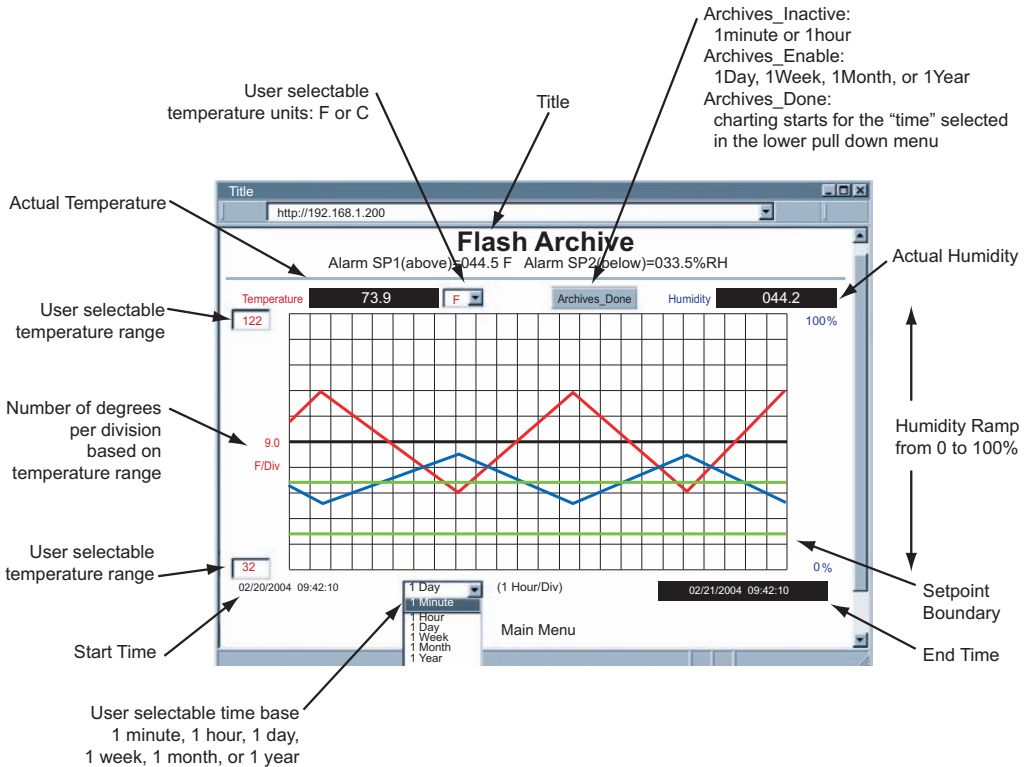

Figure 4.8 Adjustable Chart
- Click on [Chart], the following page (**Figure 4.8**) should appear. The Java™ Applet graph displays Temperature and Humidity values, which can be charted across the full span (-40 to 124°C, and 0 to 100% RH) or within any narrow range (such as 20 to 30°C). The time-base can display one minute, one hour, one day, one week, one month or one year.